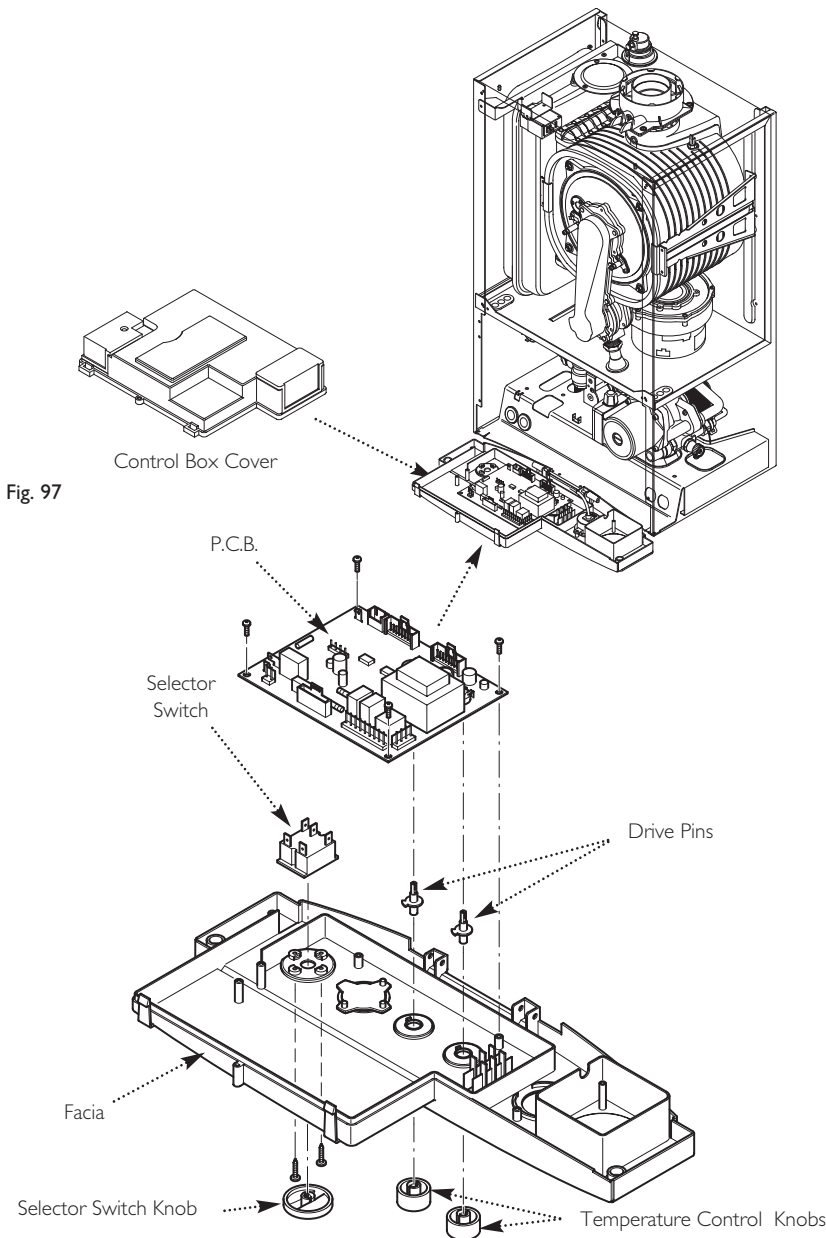

Fig. 98
14.20 P.C.B. (Fig. 98)
14.21 Selector Switch (Fig. 98)